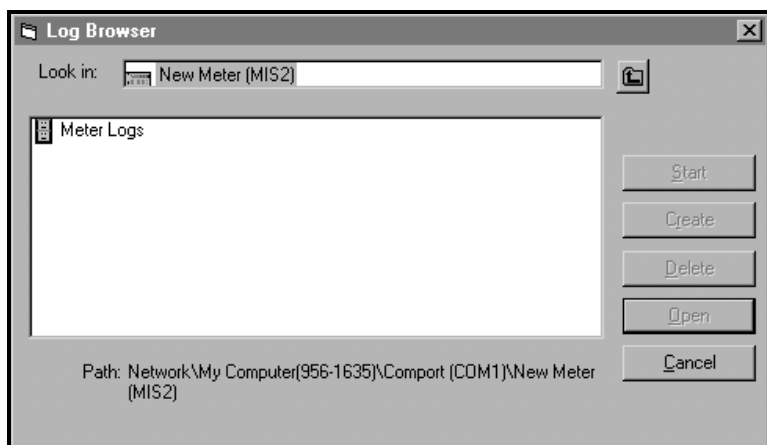

Figure 71: Log Type Selection
- c. Double click on the *meter name* to move to the network level shown in Figure 71.